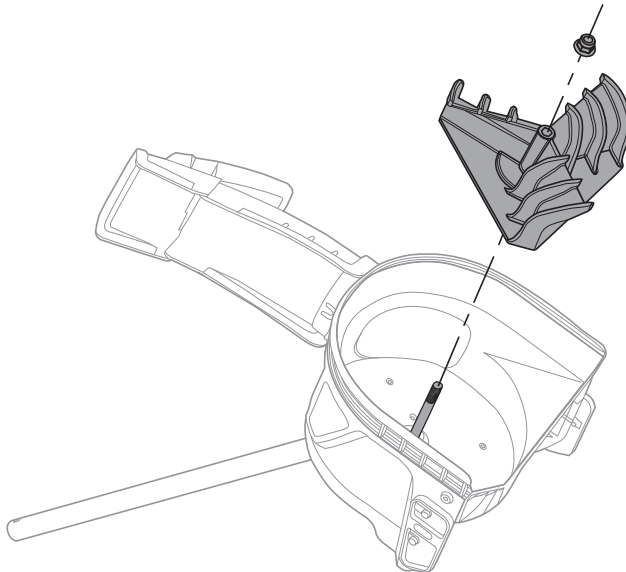

Fig. 11
2. Remove the jam nut which locks the impeller to impeller shaft. (Fig. 11)
3. Remove the impeller and replace with a new one. (Fig. 11)